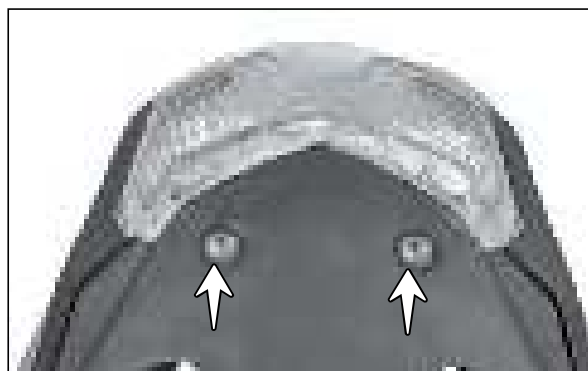

Fig. 5.85
- Remove the CRR pan head screw (M6x16 - 2 Nos.) from the tail assembly mounting. (Fig. 5.85)